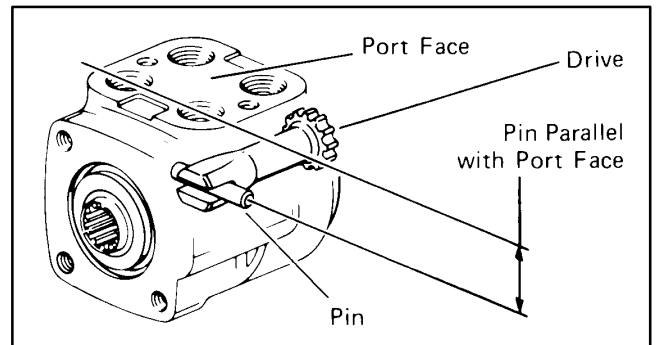
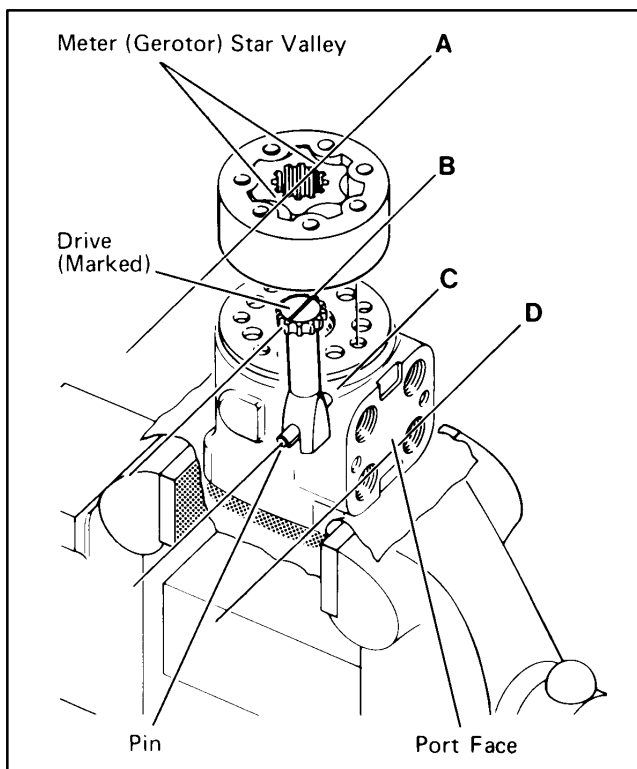

Figure 45
Figure 47
20. Rotate spool and sleeve assembly until pin is parallel with port face, see Fig. 45. (Install drive, make sure you engage drive with pin. To assure proper alignment, mark drive as shown in Fig. 47 (ref. B). Note the relationship between slotted end of drive to splined end of drive when marking.
22. With seal side of meter toward spacer plate, align star valleys (ref. A) on drive (ref. B). Note the parallel relationship of reference lines A, B, C, and D in Fig. 47. Align bolt holes without disengaging meter from drive. Align bolt holes without disengaging meter from drive.